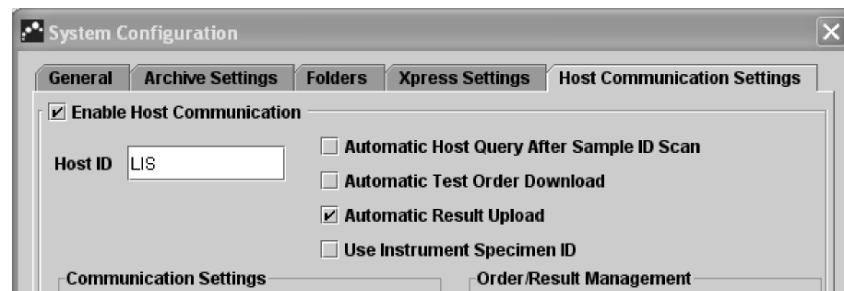

Figure 6-11. Automatic Result Upload
1. In the **Host Communication Settings** window, click the **Automatic Result Upload** checkbox so the result will be uploaded as soon as the test is completed (Figure 6-11).
1. In the **Host Communication Settings** window, make sure **Automatic Result Upload** is deselected or disabled (Figure 6-11).